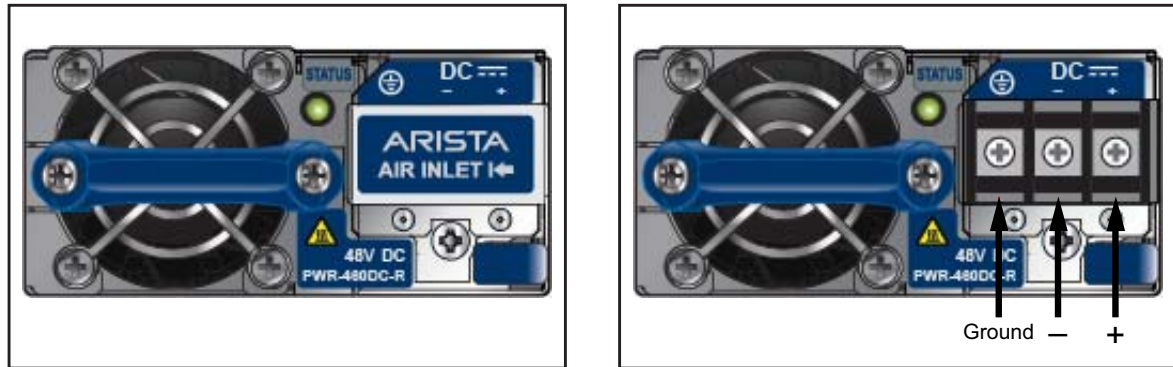

Figure 4-2: DC Power Supply – terminal cover in place (left); terminal cover removed (right)
The DC power supply connects to a circuit that provides 40-72 VDC and 13.9–7.72 A. Figure 4-2 displays the DC power supply with the terminal cover in place (left illustration) and with the terminal cover removed (right illustration).
Step 1 Remove the terminal cover to expose the connectors on the right side of the module (Figure 4-2).